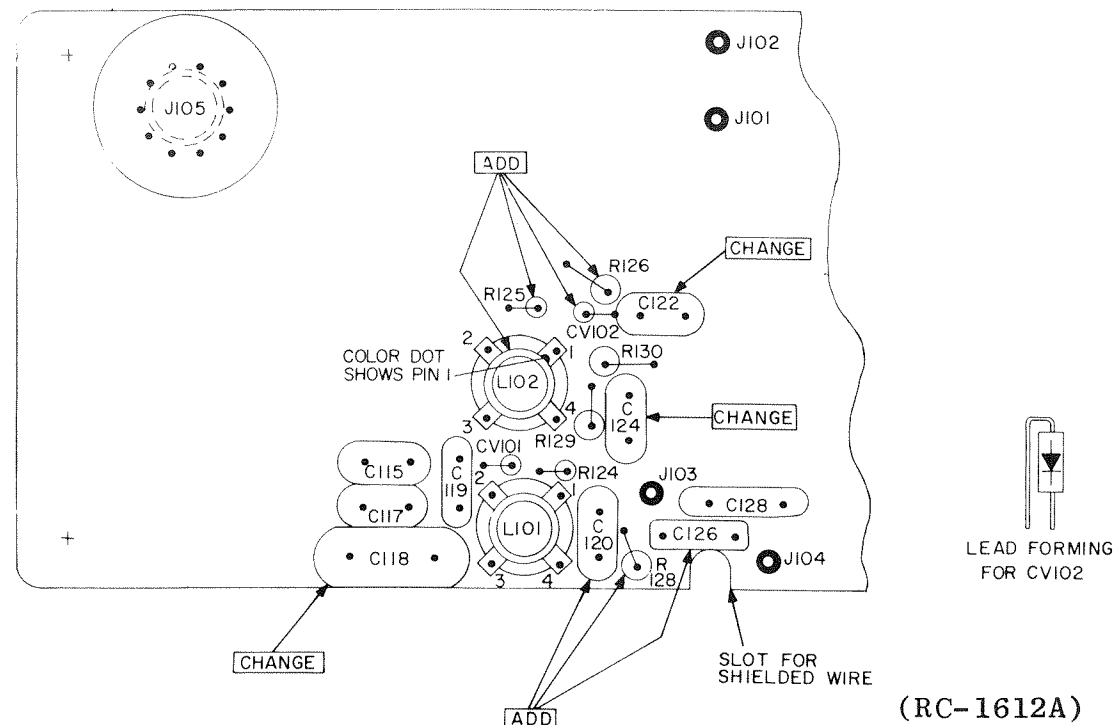

Figure 1 - Component Location (Exciter Board)
2. Modify the exciter board using appropriate kit (19A122624G1 thru G3) as instructed in Table 1. Component location is shown in Figure 1.